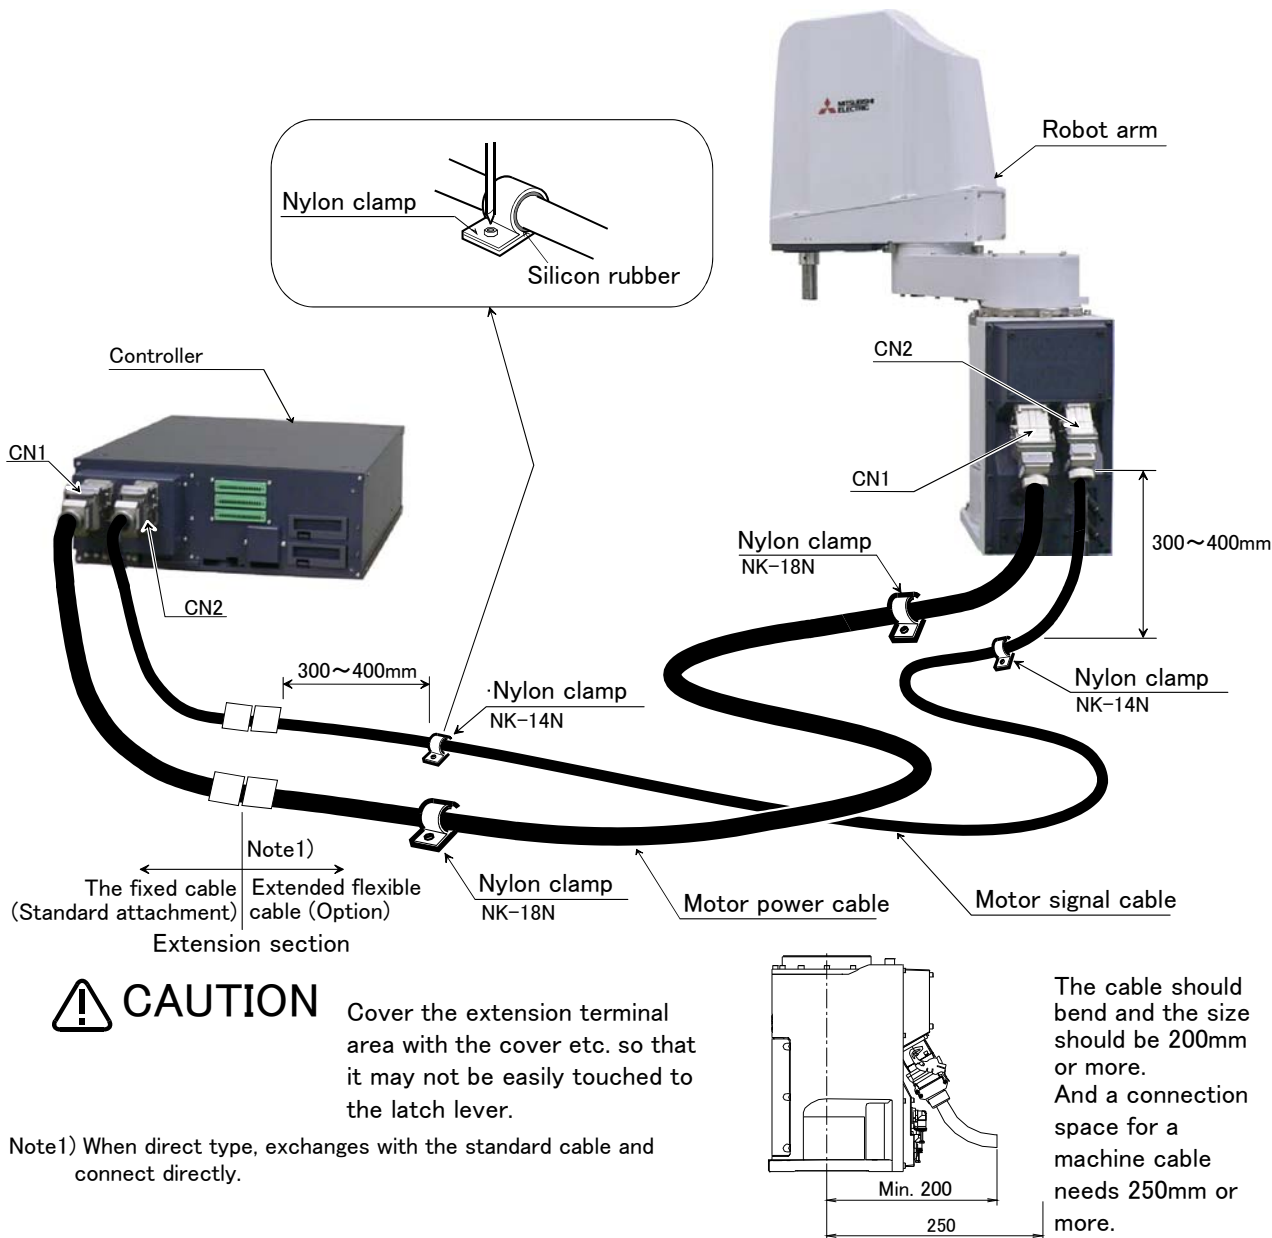

Fig.2-29 : Fixing the flexible cable (CR750)
- (1) Connect the connector to the robot arm.
- (2) Wind the silicon rubber around the cable at a position 300 to 400 mm from the side of robot arm and extension section as shown in Fig. 2-29, and fix with the nylon clamp to protect the cable from external stress.